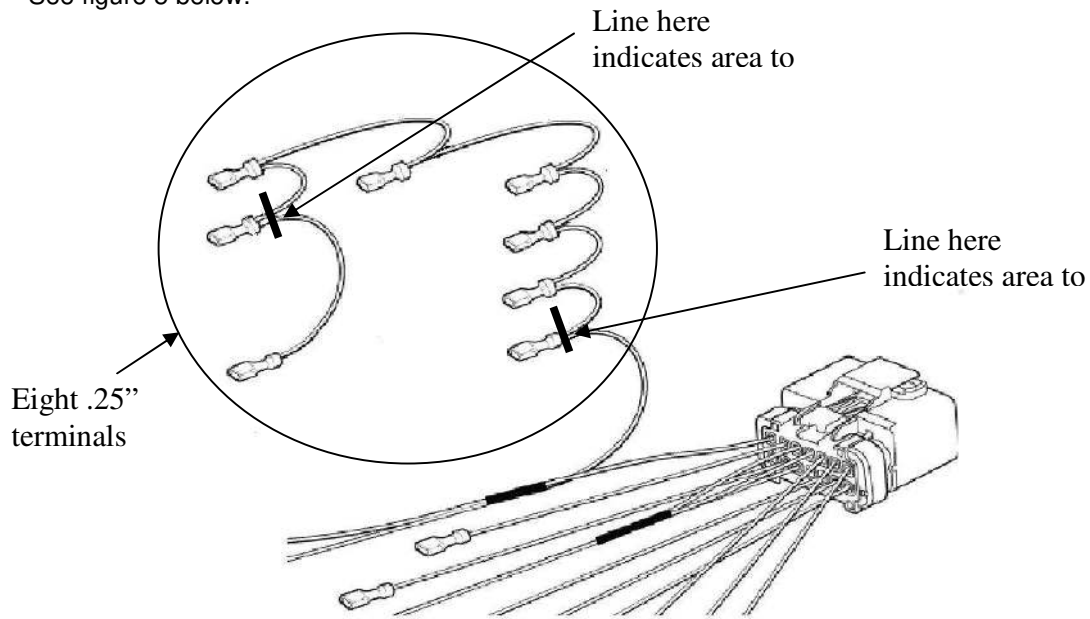

Figure 5
6. Locate the red/white wire (pin 1) with the eight .25" terminals attached. On the terminals detailed below cut wires directly behind terminal leaving as much wire as possible. Discard the two .25" terminals. See figure 5 below.